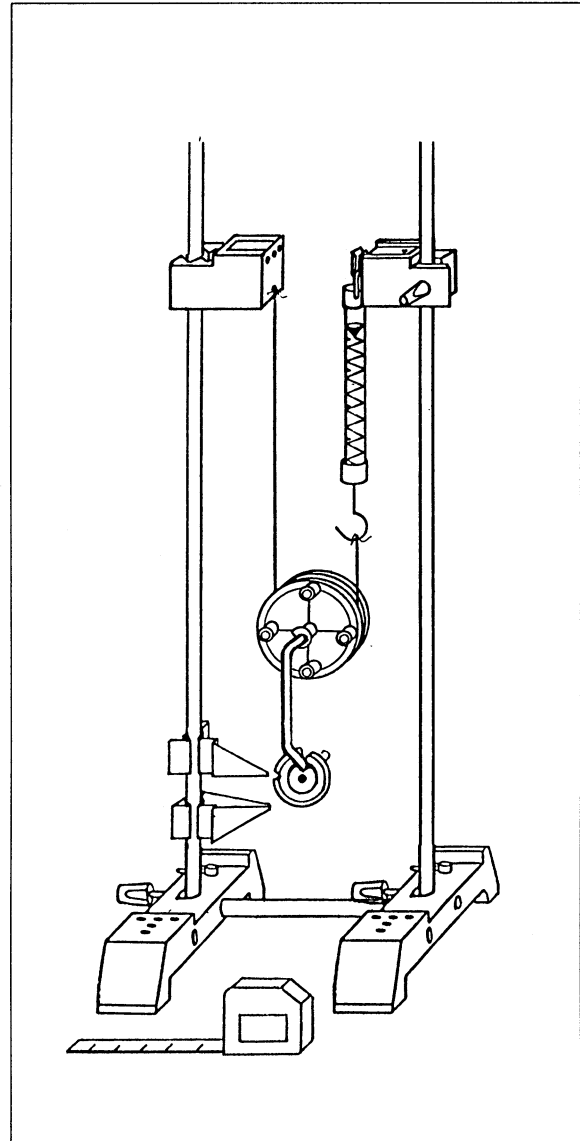

Fig. 1 Experimental setup: movable pulley
1. Set up the apparatus as shown in fig. 1.